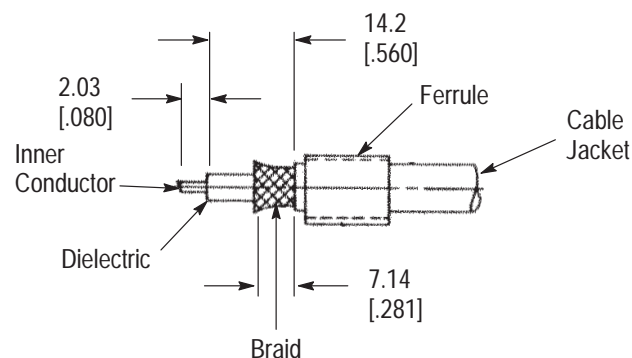

Figure 3
2.1. Preparing the Coaxial Cable End (Figure 3)
3. Trim the outer conductor to length, as shown in Figure 3.
4. Trim the inner conductor to length, as shown in Figure 3.